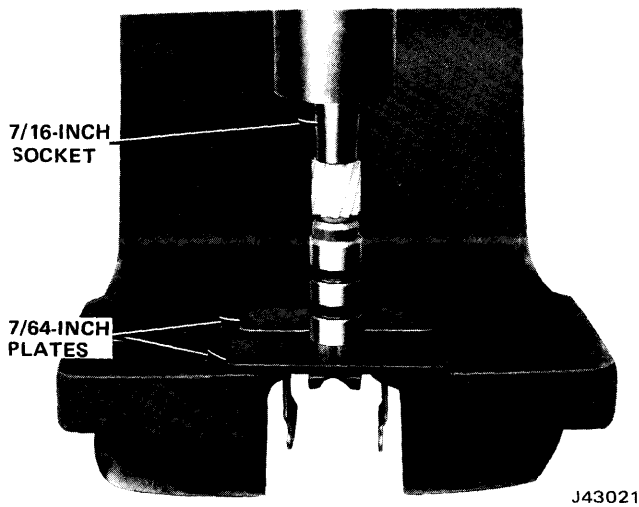

Fig. 7-49 Removing—Installing Governor Driven Gear
- (2) Support governor using 7/64-inch thick plates installed in exhaust slots of governor sleeve (fig. 7-49).
- (3) Mount assembled parts in arbor press and use long punch to press gear out of sleeve.
- (4) Clean chips from governor sleeve.
- (5) Support governor on 7/64-inch plates installed in exhaust slots of sleeve.
- (6) Insert replacement gear in sleeve.
- (7) Press gear into sleeve using suitable size socket until gear is nearly seated (fig. 7-49).
- (8) Remove any chips that may have shaved off gear hub and press gear inward until it bottoms on shoulder of sleeve.